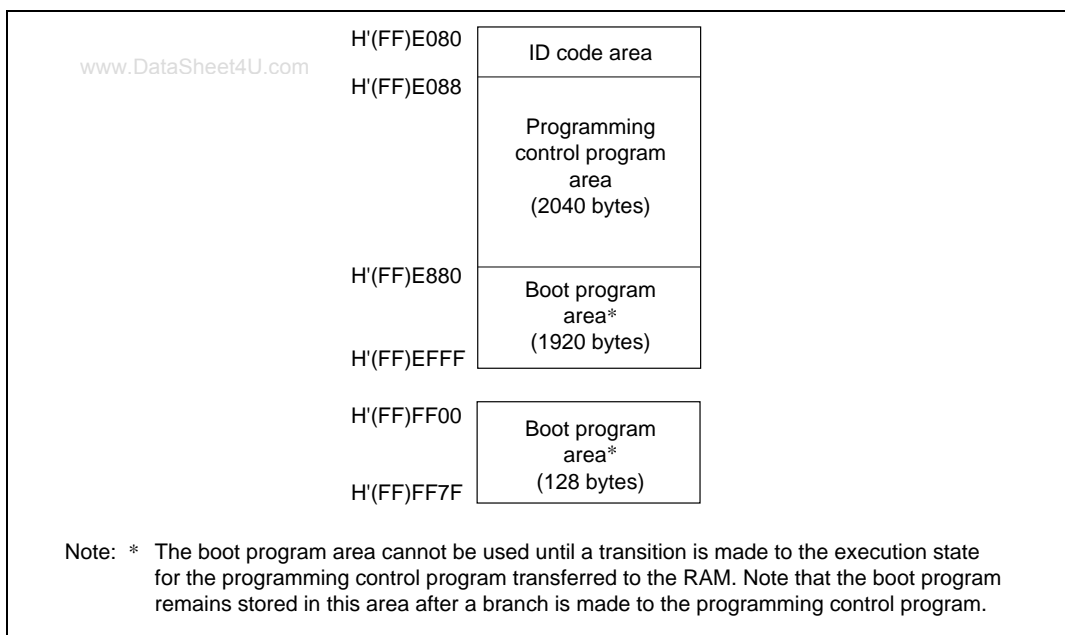

Figure 22.10 RAM Areas in Boot Mode
On-Chip RAM Area Divisions in Boot Mode: In boot mode, the 1920-byte area from H'(FF)E880 to H'(FF) EFFF and the 128-byte area from H'(FF)FF00 to H'(FF)FF7F is reserved for use by the boot program, as shown in figure 22.10. The area to which the programming control program is transferred is H'(FF)E080 to H'(FF)E87F (2048 bytes). However, the 8-byte area from H'(FF)E080 to H'(FF)E087 is reserved for ID codes as shown in figure 22.10. The boot program